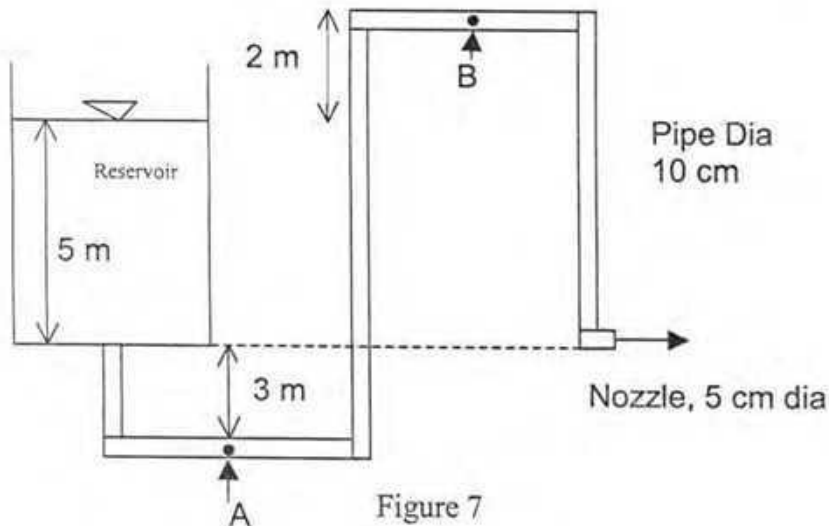

Figure 7
- b. Calculate the discharge through the pipeline shown in the Figure 7. Also find the pressure at points A and B. The depth of water in the reservoir is 5 m. Neglect losses. 12